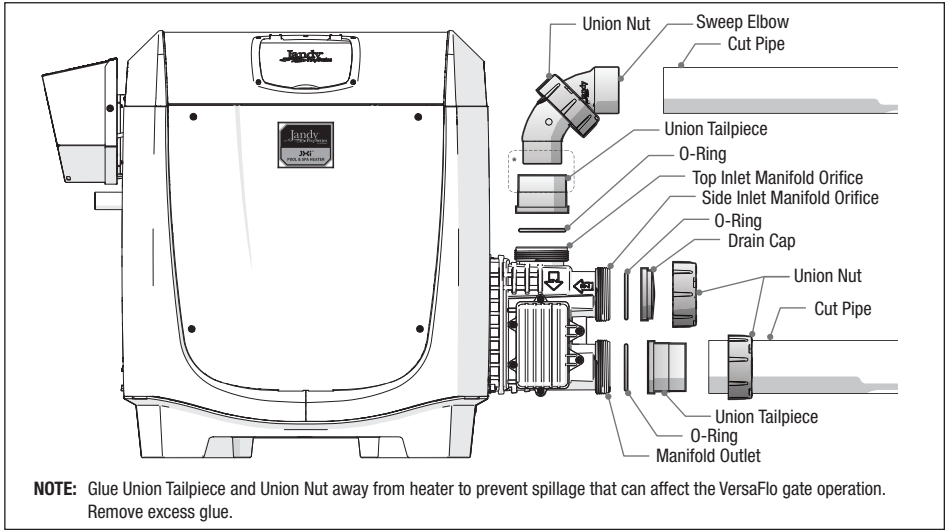

Figure 12. Inlet Piping
- Slide the union nut onto the cut pipe length or sweep elbow. Ensure proper nut orientation with threads directed towards the heater manifold. See Figure 12.